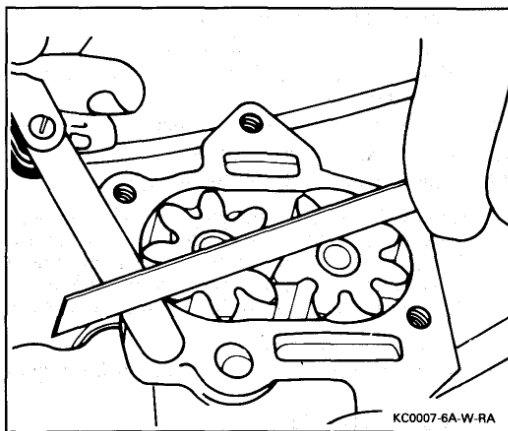

Figure 48 Measuring Oil Pump End Clearance
- Gear end clearance (Figure 48).